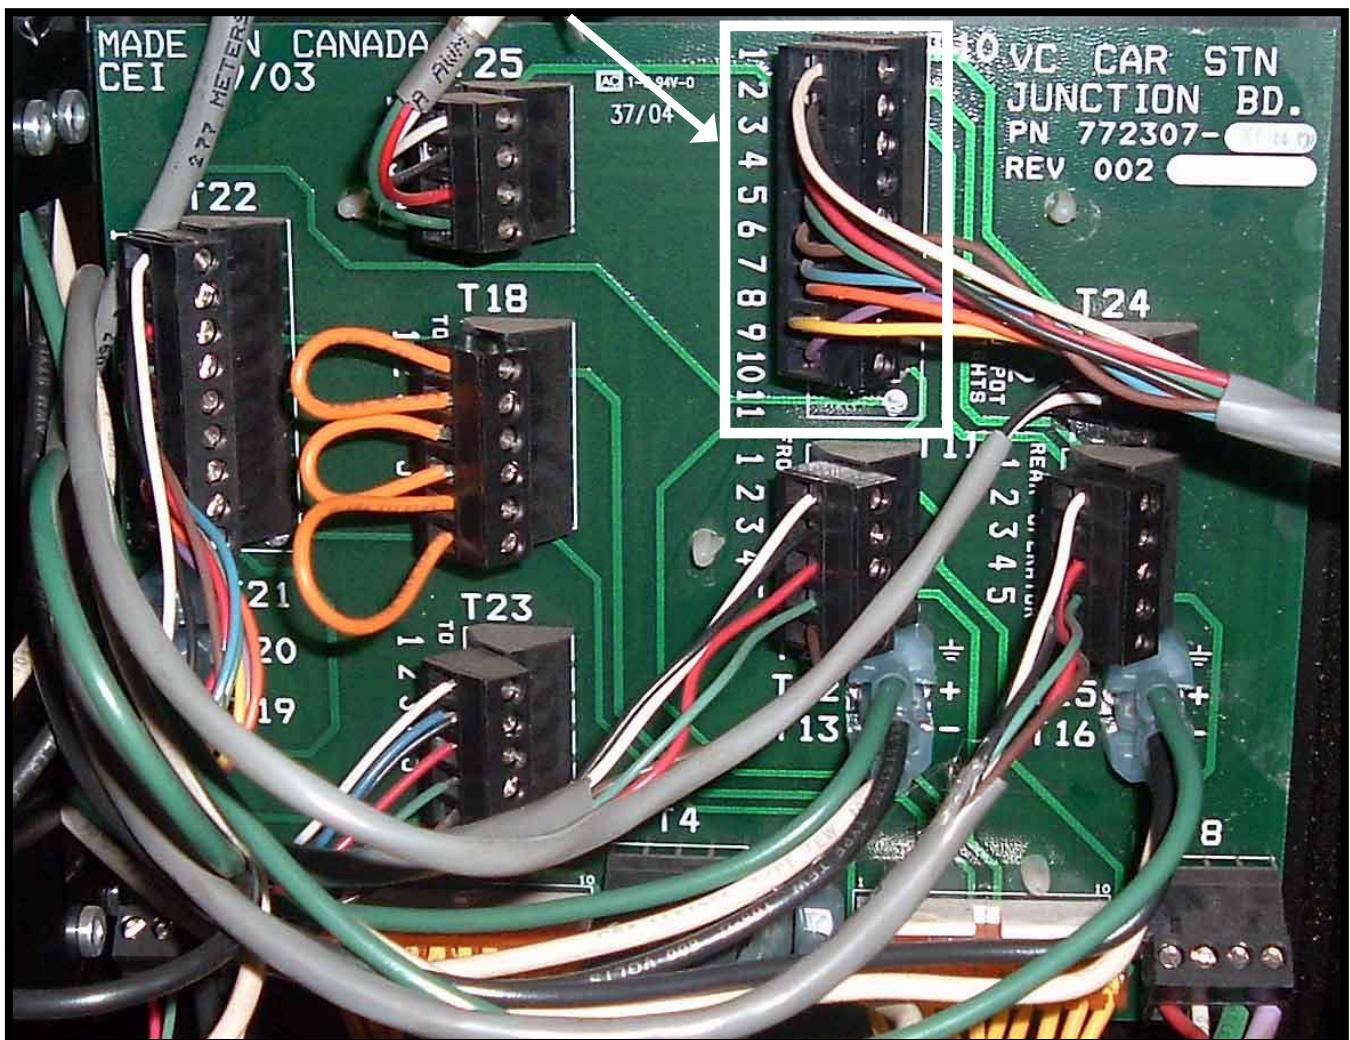

Figure 2
- 6) Connect the red and green wires from the Telephone Cable to terminal T10 pins 6 and 7 on on the Car Station Junction Board. Refer to Figure 2.